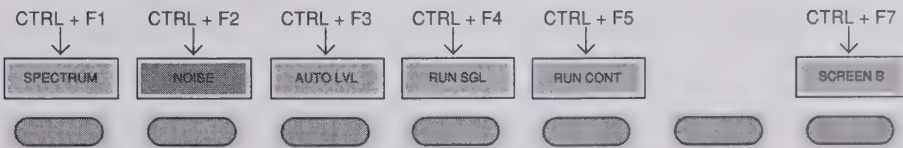

Fig. 1-5 Quick Access to Hotkeys
- CTRL keys Used to activate hotkeys. Each of the seven hotkeys is allocated a different function (F) key. To access these hotkeys press CTRL and the corresponding F key together (see Fig. 1-5):